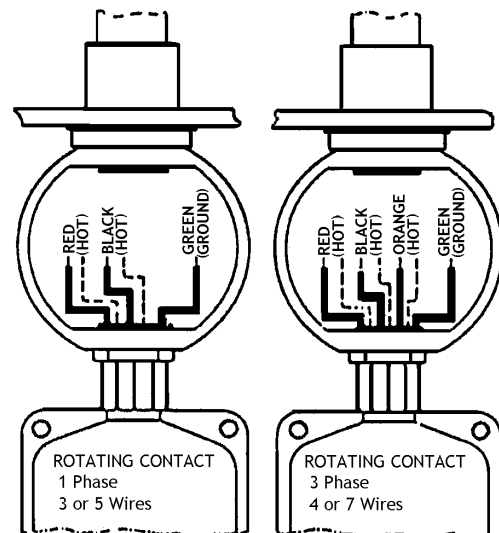

Figure 40 - Rotating Contact Wiring Diagram
- 115 Have electrician provide liquid-tight elbow and drip loop and bring electrical service into cast electric junction box attached to center hanger, wiring to leads of rotating contact. **Figure 40.**